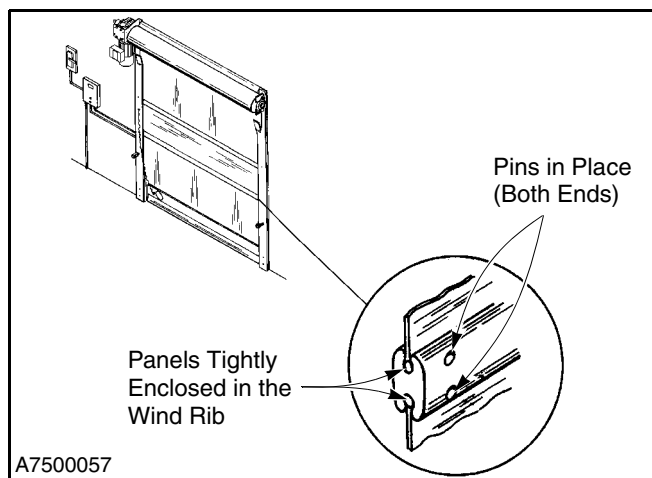

Figure 14
2. Check all panels to be sure they are tightly enclosed in the wind ribs and pins are in place in wind ribs. (See Figure 14.)